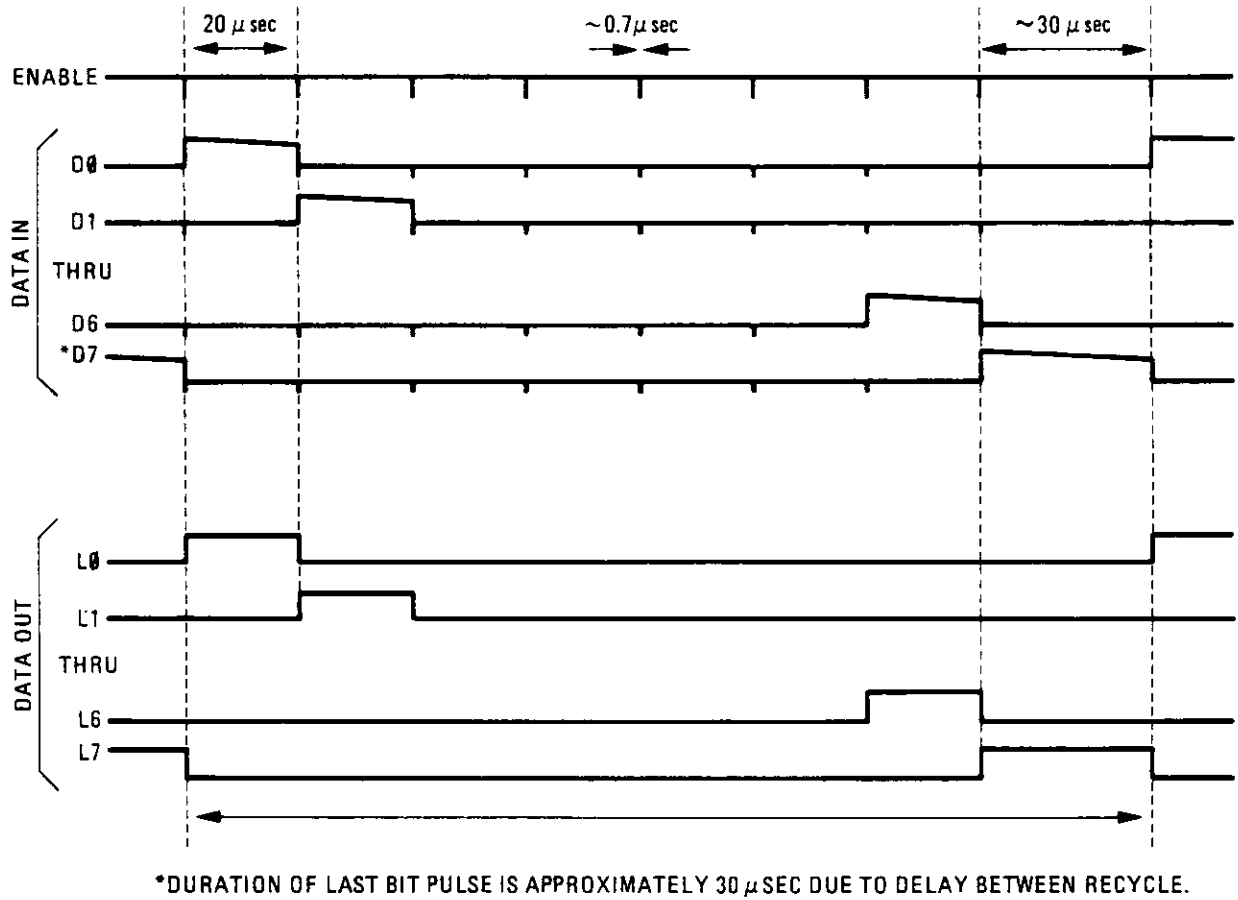

Figure 8-2. Hex Data Rotation Write — Bit Pattern
- HEX DATA ROTATION WRITE [M4], strobes a logic 1 (high state) through a column of logic 0's (low states) on the data lines of the addressed device. In effect, hex data rotation write is a rapid WRITE mode, exercising the addressed device in real time. The microprocessor inputs the data continuously, without servicing interrupts from the rest of the instrument. Latch enable lines, inputs, and outputs can be checked in this mode. Figure 8-2, *Hex Data Rotation Write – Bit Pattern*, illustrates the correct waveforms.